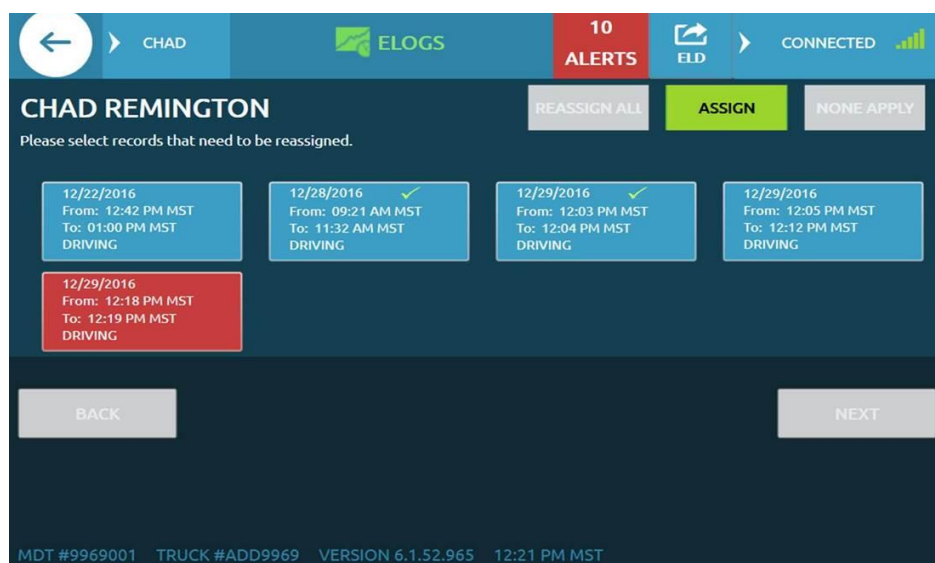

Figure 4.11
- After reviewing the records, the driver is able to select the records that apply and touch “Assign.” Records that are selected will have a green check mark. (fig 4.11)